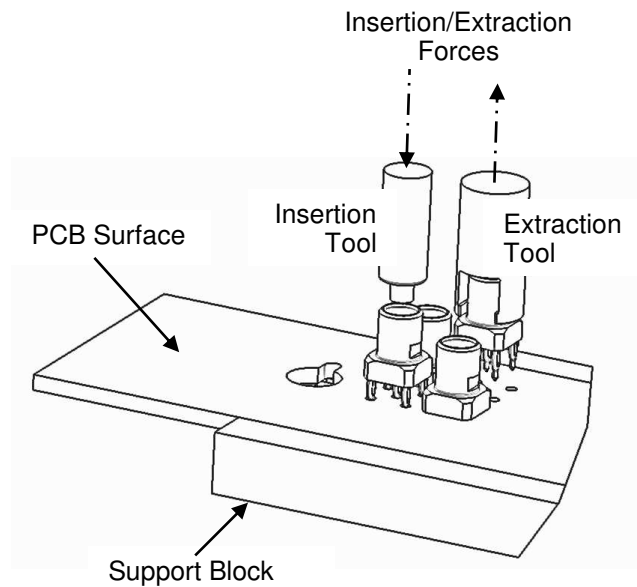

Figure 2: Installation and Removal of SMPM Contacts.
Extraction of the SMPM Plug from the PCB is accomplished by sliding or clamping a tool (see figure 2) in to the flats on the side of the housing and pulling up perpendicular and away from the PCB surface.
- Pull the connector out of the PCB using a force that is perpendicular to the surface of the board. See Figure 2.